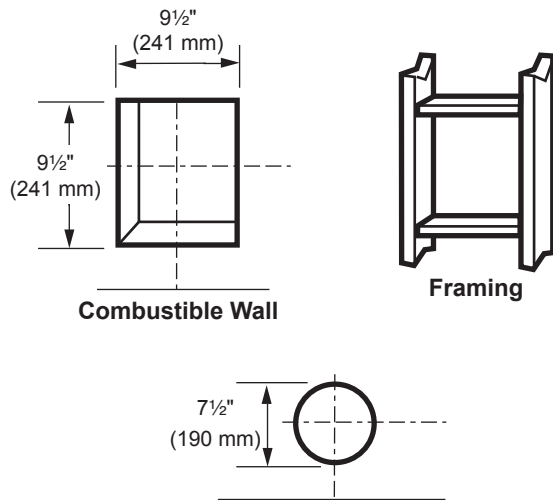

Figure 26 - Exterior Wall Framing Dimensions for 4 x 6^{5/8}" or 4"x7" Venting
- Combustible Exterior Walls:** Cut a 9½"H x 9½"W (241 x 241 mm) square hole through the exterior wall frame. *Figure 26*
- The center of the hole should align with the center line of the horizontal rigid vent pipe end. Allow ¼" minimum rise per foot. *Figure 26*